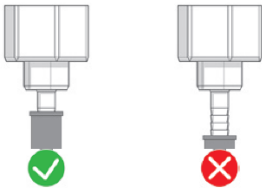

FIGURE 5
2. Attach the oxygen input connector/s A and B to the flowmeter/s (see **FIGURE 5**). Check proper connection before activating the gas supply.